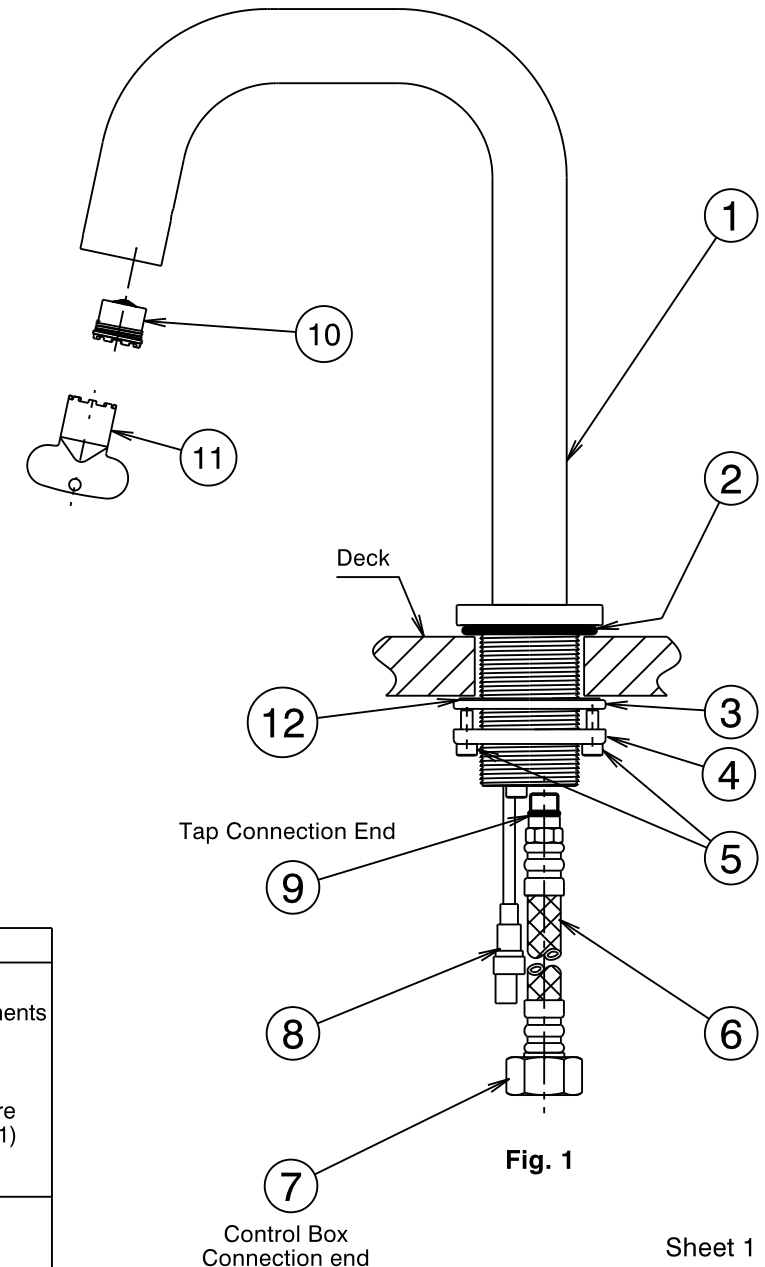

Fig. 1
- 1) From fixing pack fit 'O'ring (2) into groove of outlet base (1).
- 2) **Flexible Tail Connection:** Apply suitable lubricant to 'O'ring (9). Fit flexible tail (6) into threaded hole in base of outlet (1). Hand tighten the flexible tail, ensuring the 'O'ring (9) has fully entered the sealing bore to provide a watertight joint.
- 3) Insert the control box connection end (7) of the flexible tail (6) and the sensor cable (8) through the hole in the deck. Place outlet into deck hole, slide rubber washer (12) and metal washer (3) over threaded tail of outlet as shown in Fig. 1. Screw clamp ring (4) onto threaded tail until it contacts washer (3) then tighten screws (5) equally until outlet is clamped firmly to the deck. **DO NOT OVERTIGHTEN.**